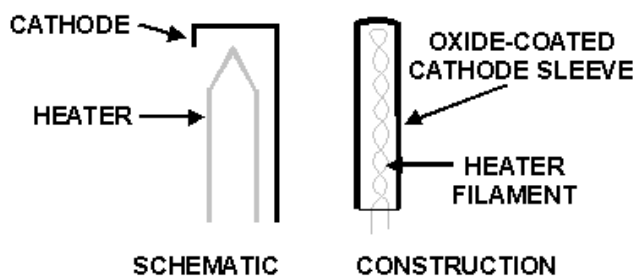

Figure 1-7.—Indirectly heated cathode schematic.
**INDIRECTLY HEATED.**—Figure 1-7 shows this type of cathode and its schematic symbol. Indirectly heated cathodes are always composed of oxide-coated material. The cathode is a cylinder, a kind of sleeve, that encloses the twisted wire filament. The only function of the filament is to heat the cathode. The filament is often called a heater when used in this manner.